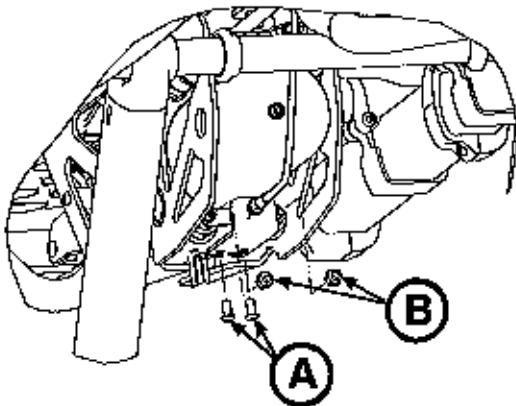

Figure 109
3. Using a T27 Torx driver, remove the two button head cap screws (A) that secure the manual release cable bracket to the bottom of the hydraulic subassembly (Figure 109).
5. Using a 7/16" combination wrench, remove the Nylock hex nut (B) from each of the valve stems (Figure 109).